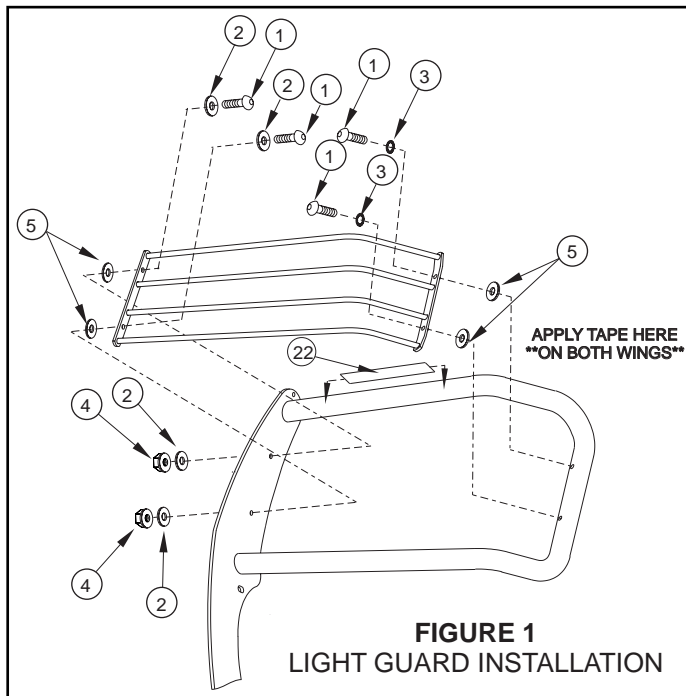

FIGURE 1
- STEP 2.** Attach light guard assemblies as shown. **SEE FIGURE 1.**
- STEP 12. For chrome assemblies. If light glare is being experienced off the wings of the Sportsman, anti reflective tape has been supplied to reduce glare. With headlights on, note where the reflection is concentrated on the wing. Clean the wing well with a non-abrasive cleaner (rubbing alcohol works the best.) Trim the anti-reflective tape to the appropriate size where the glare was located and apply tape. **SEE FIGURE 1.**